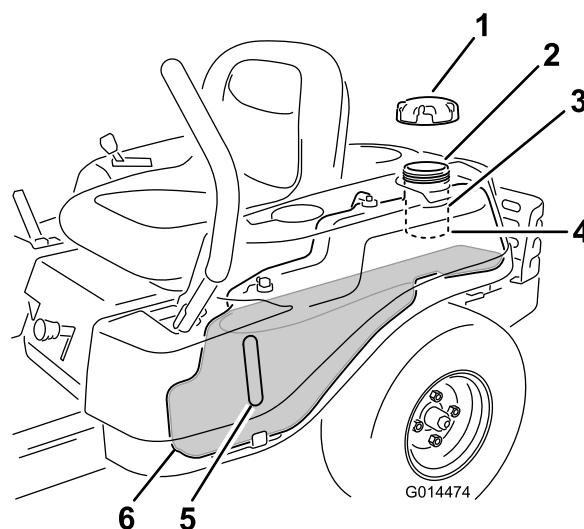

Figure 8
Note: You can use the fuel window to verify the presence of gasoline before filling the tank (Figure 8).
2. Slowly add gasoline until the fuel reaches the base of the filler neck (Figure 8).